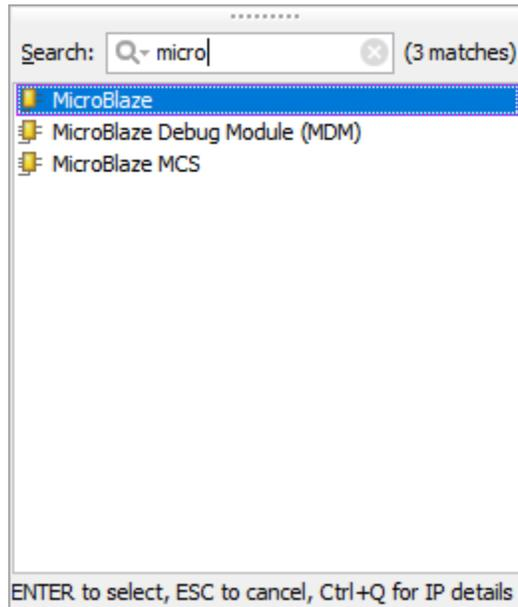

Figure 4: *Add IP* selection list.
4. Enter **microblaze** into the search field and select the **MicroBlaze** core, as shown in Figure 4. Double-click the selection, or press Enter, to select the component.